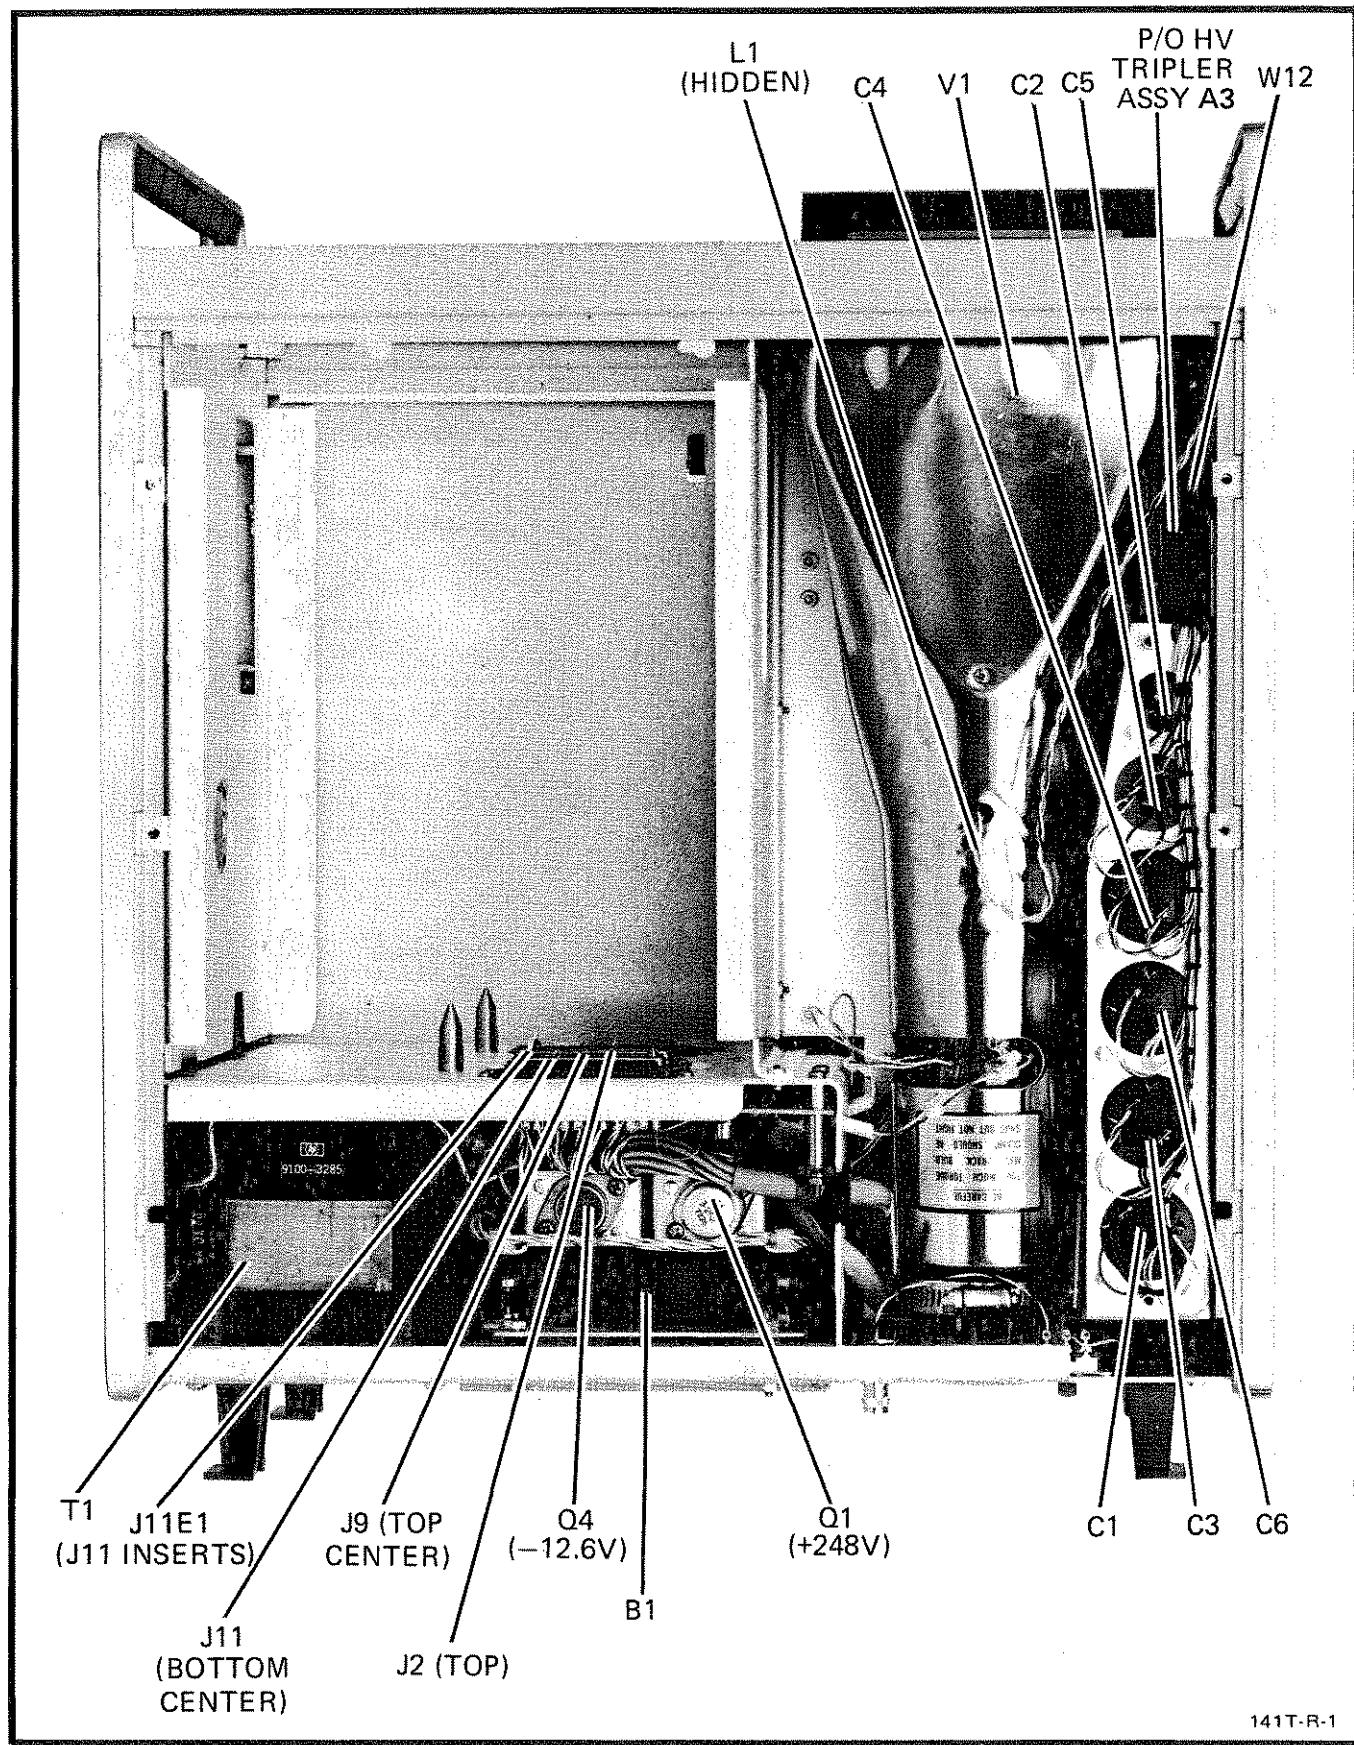

Figure 8-2. Component Location, Top View
- c. Remove flexible three conductor CRT lead (W12, figure 8-2) from connector block.